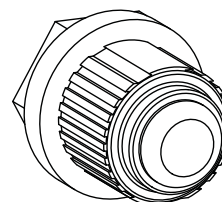

Fig. 27-1
3. Press and hold the electronic igniter button (see Fig. 27-1). The igniter will begin to spark with a rapid clicking sound.